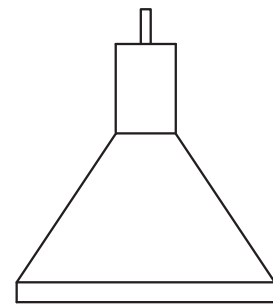

Fig. 11-9
5. Create a new drawing file and draw the lamp head shown in Fig. 11-9. Copy everything entered at the **Command Line** window to the Clipboard and paste it into a text editor such as **Notepad**. Then print it. (Read problem 6 before completing this problem.)